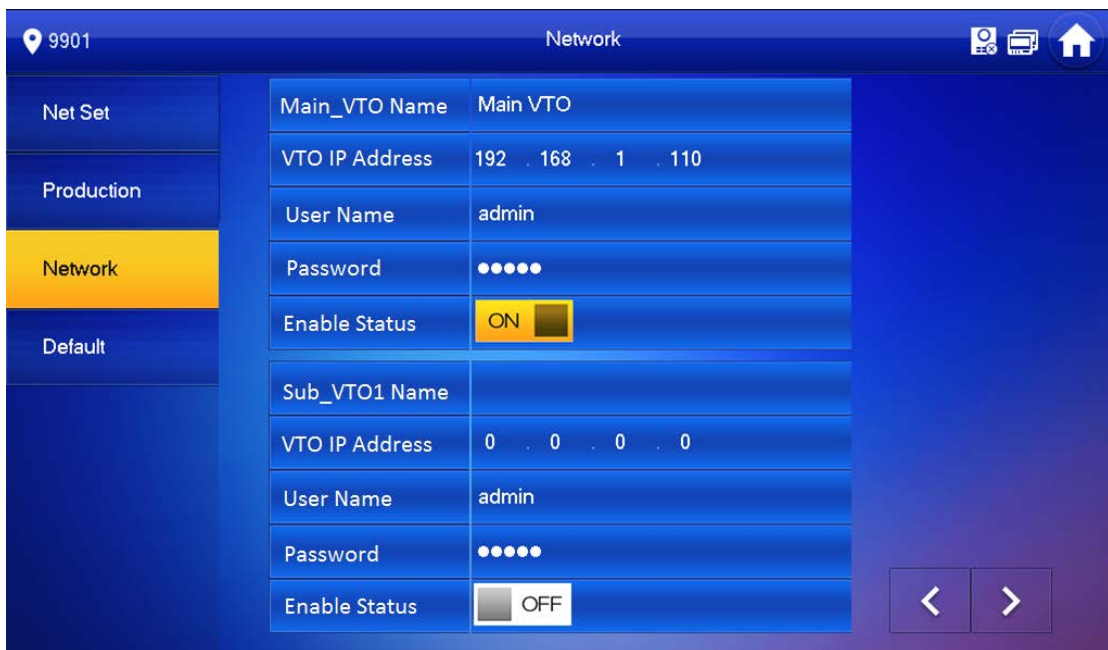

Figure 3-12
Step 5. Click Network, to set VTO info. See Figure 3-12.